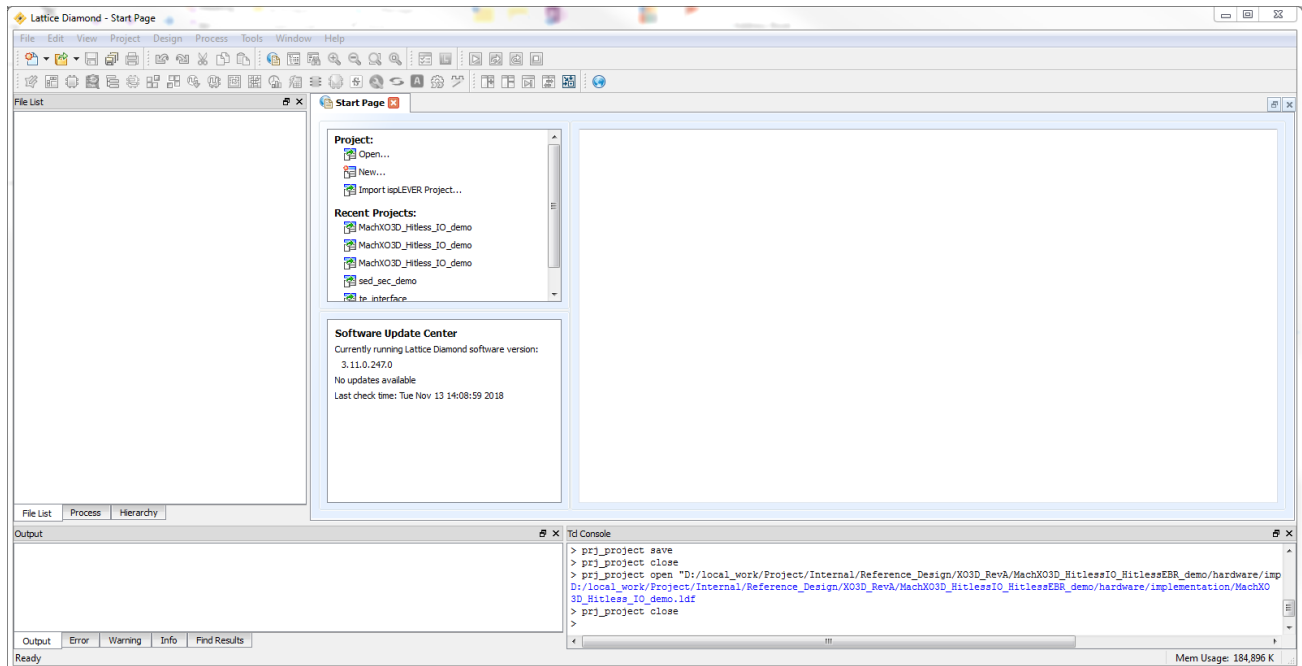

Figure 7.1. Opening Design File
1. In Lattice Diamond, open the Lattice Design file (*.ldf file) by clicking **Open** in the **Project** tab (Figure 7.1).